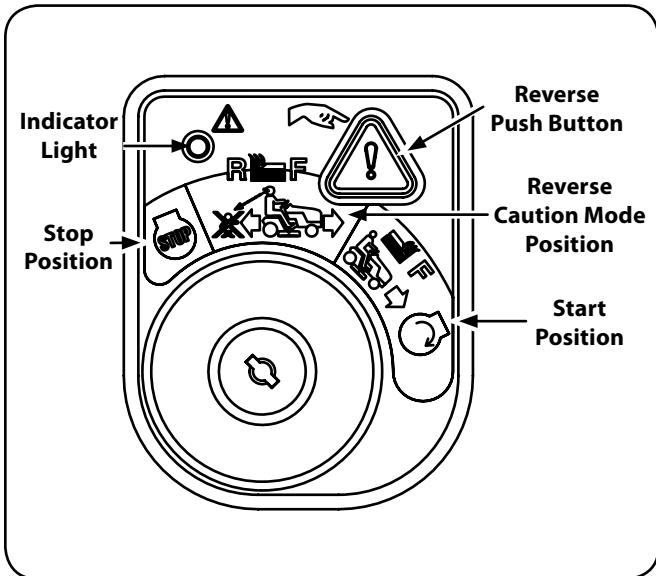

Figure 16
- Turn the key from the NORMAL MOWING (Green) position to the REVERSE CAUTION MODE (Yellow) position of the ignition switch module. See "Figure 16".
- Press the REVERSE PUSH BUTTON (Orange, Triangular Button) at the top, right corner of the key switch module. The red indicator light at the top, left corner of the ignition switch module will be ON while activated. See "Figure 16".